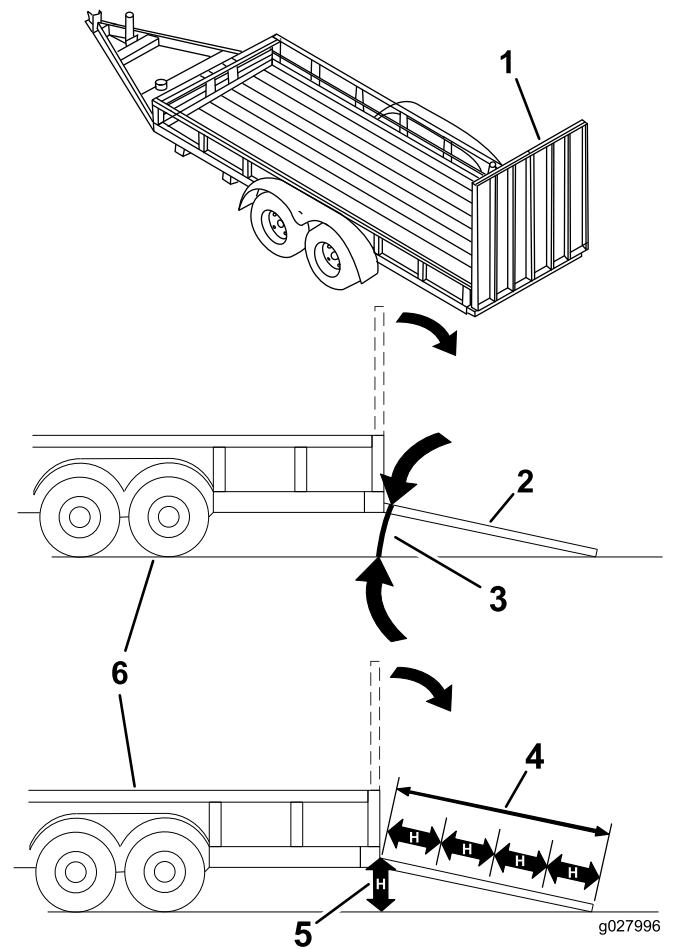

Figure 45
Loading a machine onto a trailer or truck increases the possibility of tip-over and could cause serious injury or death (Figure 45).
3. Lower the ramp, ensuring that the angle between the ramp and the ground does not exceed 15 degrees (Figure 45).
1. Lower the ramp, ensuring that the angle between the ramp and the ground does not exceed 15 degrees (Figure 45).